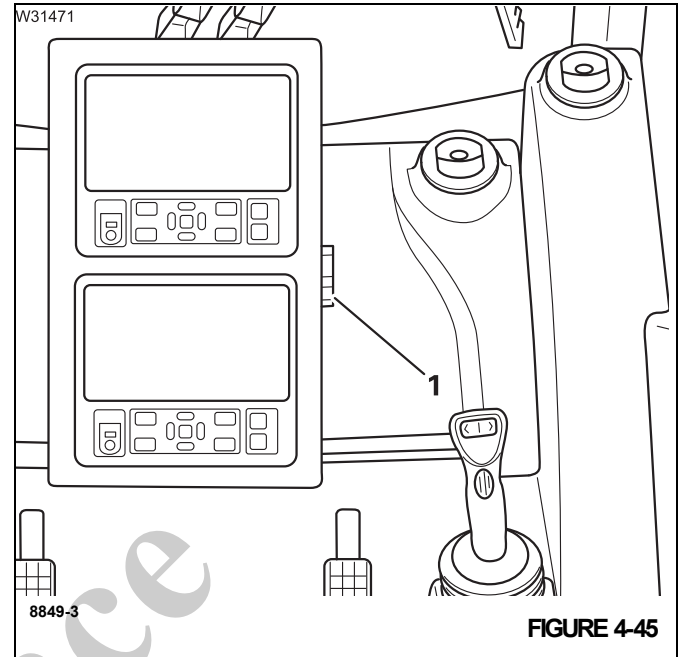

FIGURE 4-45
Release the handle counterclockwise (1), (Figure 4-45).